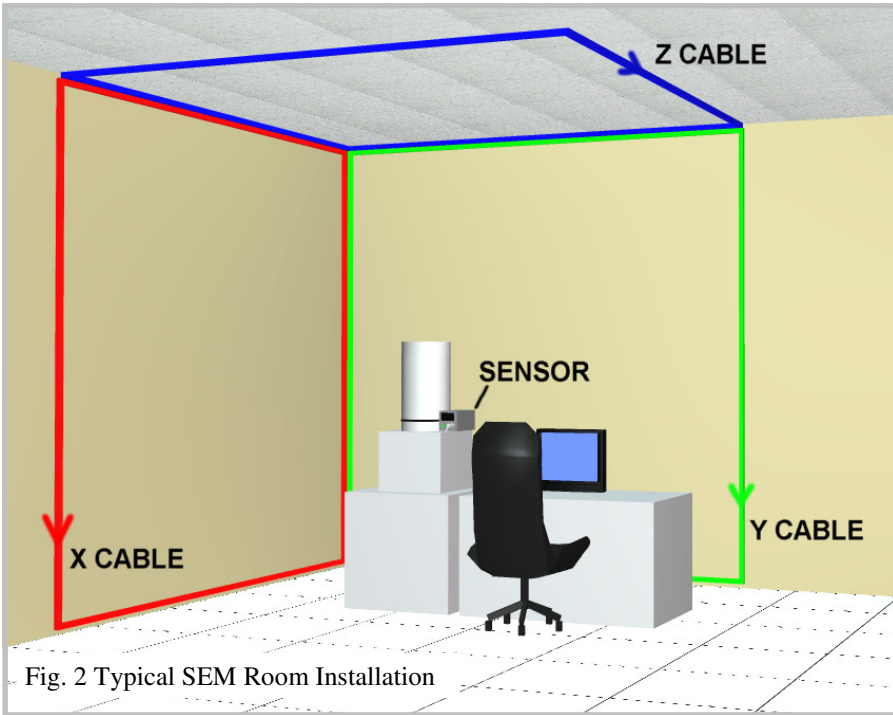
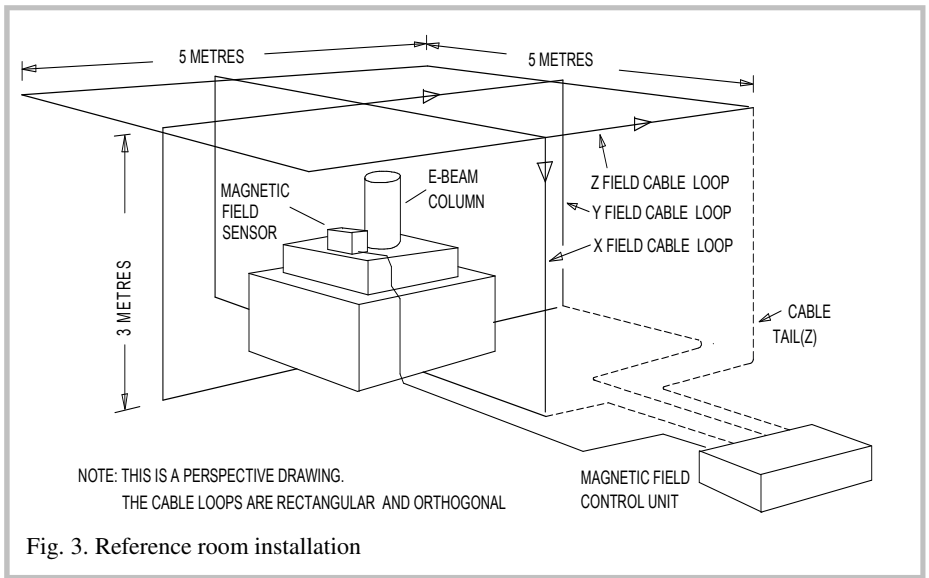

Fig. 2 Typical SEM Room Installation
Fig. 3. Reference room installation
- 2.1 Decide the location for the X, Y & Z field cancelling cables and install them in the room (Figs 2 or 3) or on the Helmholtz frame (appendix 2). Note the X, Y & Z cable loops must be orthogonal.
A typical SC22 system installation on an SEM is shown in Fig. 2. The control unit is not shown. The cables make one turn and are shown in red, green and blue. The actual cables are grey or black and usually installed in white plastic conduits. Where the room has a false ceiling, the Z cable is usually installed above it. The magnetic field sensor is located close to the bottom of the electron beam column. An optional mount enables it to be strapped to the column if required.
The maximum field that the SC22 can cancel is called the "Dynamic Range" and it depends on the details of the field cable installation. To specify the dynamic range and the other SC22 performance parameters rigorously, we use a reference room cable installation that is shown in Fig. 3. The electron beam column is centred in the 3m x 5m X and Y loops (which cross over above and below the column) and the 5m x 5m Z loop. The Fig. 3 installation is recommended if the field to be cancelled is bigger than 20 mG pk-pk. The dynamic range with this installation is 60 mG pk-pk on the X & Y axes and 35 mG pk-pk on the Z axis.
If you have installed all the cables with their arrows in the direction shown in Fig. 2 or Fig. 3, then the gains will all be positive. If you have installed any cable in the opposite direction, then the system automatically changes the phase and shows the gain as negative. The size of the gain would be 1.0 for the reference cable installation of Fig. 3. It will be set higher to allow for the reduced field generated by the Fig. 2 installation with the cables on the walls. The normal range is 0.25 to 4.0.
Most installations are similar to Fig. 2. The field cancelling cables are manufactured with a loop and a tail. The loop parts are shown in Fig. 2 in red, green and blue. The loop creates the field and the tail (which makes no field) connects the loop to the control unit. The cables have 15 pin D type connectors which plug together to form the loop. The standard “room” cables have X and Y loops 16 metres long and a Z loop 20 metres long. The tails are 7 metres long. The cable loops should not be shortened. Excess loop length should be treated as in Fig 4. Longer cables are available to special order.
The Fig. 2 installation is suitable for most SEM applications where the electron beam column is 1 to 2 metres from the room walls. The maximum field which can be cancelled (the dynamic range) depends on the size and position of the cable loops relative to the electron beam column. With 5m x 3m X and Y loops and the column 1.5 m from the walls the dynamic range is about 30 mG ( $3 \mu\text{T}$ ) pk-pk. The SC22 field cables are supplied with a pack of self adhesive fixing clips which can be used to fix the field cables to surfaces. These are suitable for temporary or experimental cable installations but are unsightly.
If the field to be cancelled is large ( $>20$  mG pk-pk), the Fig 3 installation should be used. There are many actual installations done this way using the earlier SC12 field cancelling system. The practical disadvantage of this installation is that parts of the cables run across the floor. This is particularly disliked by architects and health and safety officers. (Electron microscope users generally are not bothered because their microscope probably has many cables running across the floor anyway.) Cables on the floor can be protected with rubber cable protectors which can be glued down to minimise the tripping hazard. There are no dangerous voltages in the field cancelling cables. Fortunately, the alternative Fig. 2 installation, which mostly eliminates cables on the floor, has sufficient dynamic range for most fields encountered.